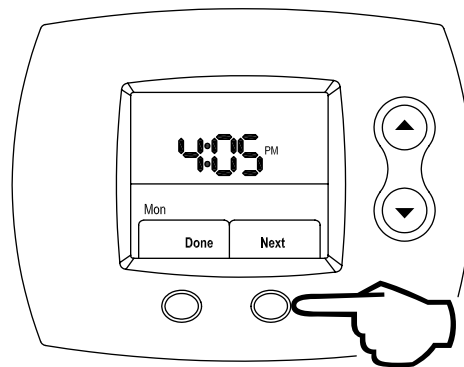

Figure 113
Step 5: Press the **RIGHT** (Next) button to set the minute, which is shown in Figure 113.